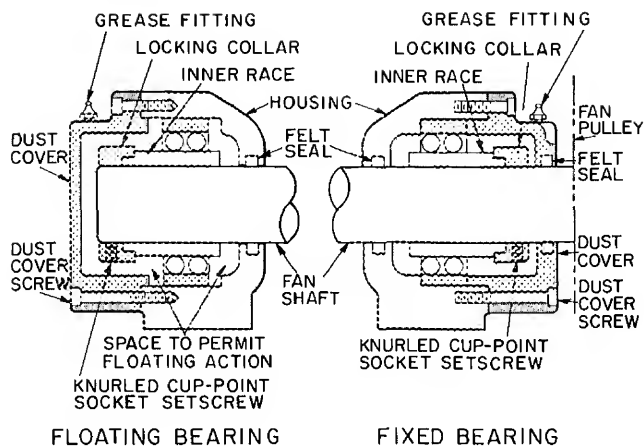

Fig. 5 — Fan Shaft Bearings
2. Loosen and remove dust cover screws. Remove dust cover (for fixed and floating bearing removal). Refer to Fig. 5.